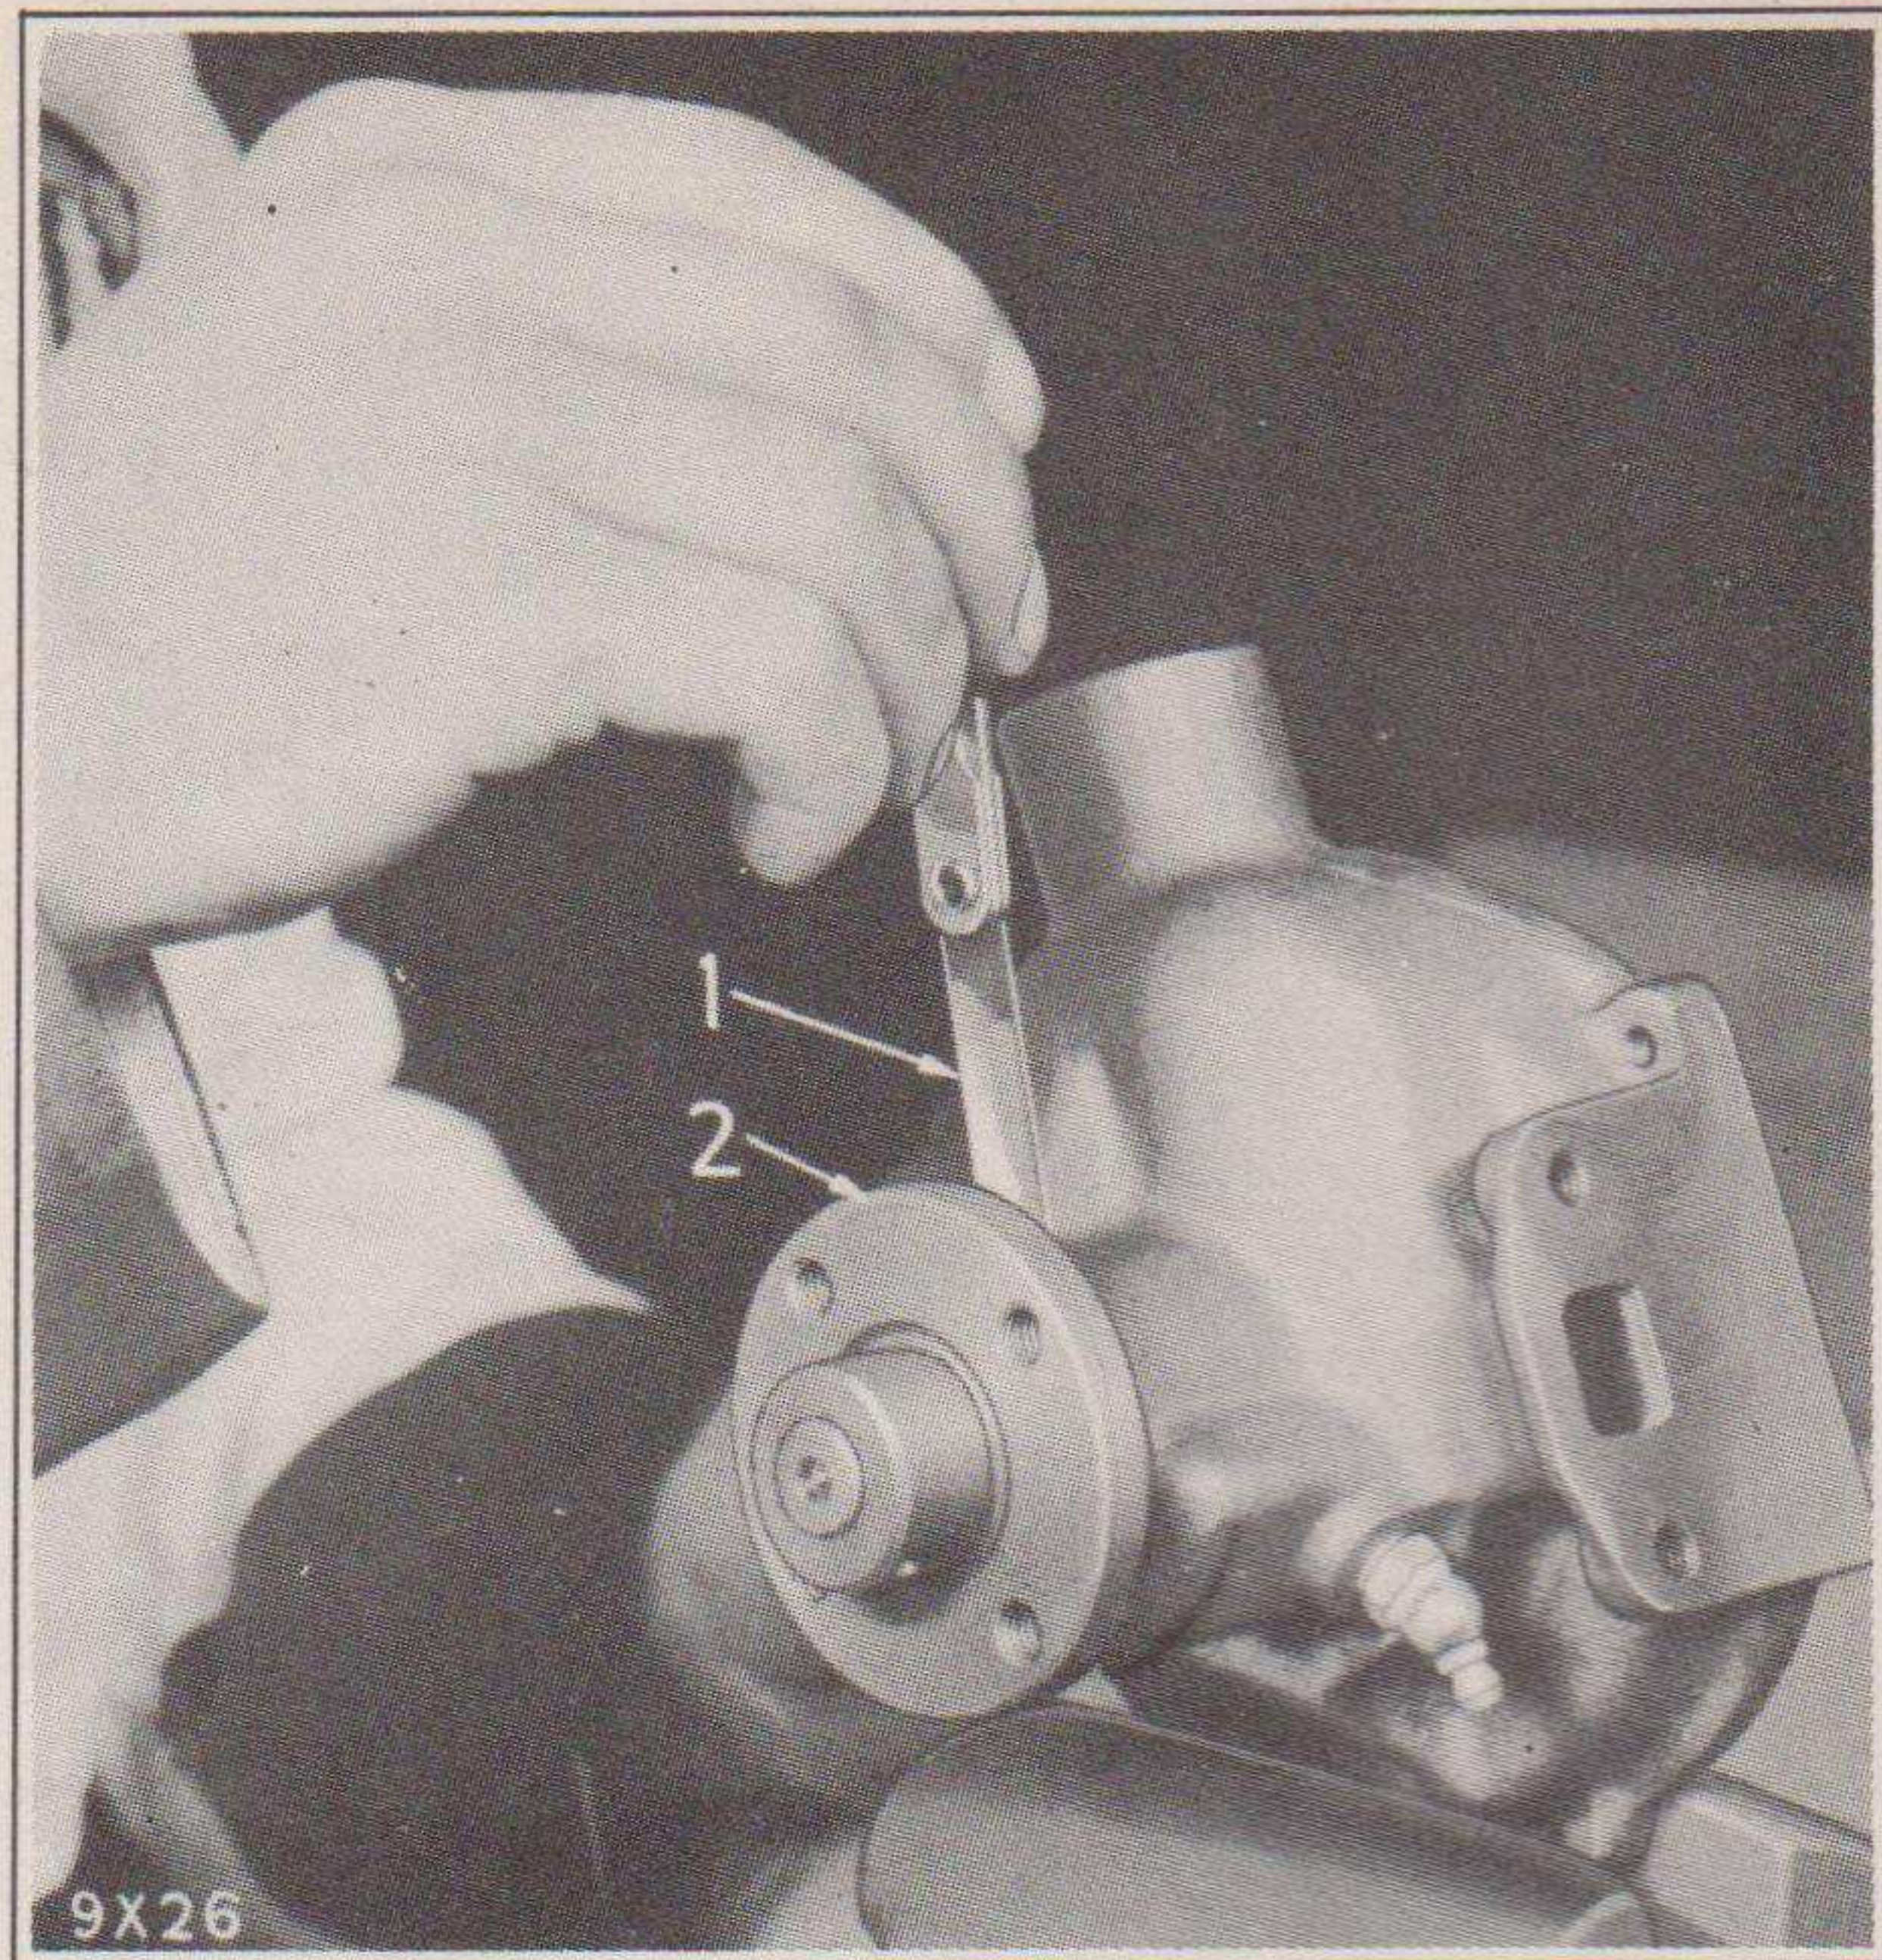

Fig. 106—Checking End-Play of Water Pump Shaft
- (i) Mark the end of the shaft, showing the direction of the fan pulley hub pin hole. (This operation is not necessary when a new shaft is installed.) Then press a new (unused) fan pulley hub onto the pump shaft, leaving a clearance between the bushing and hub of .003" for shaft end play measured with a feeler gauge. See Fig. 106.